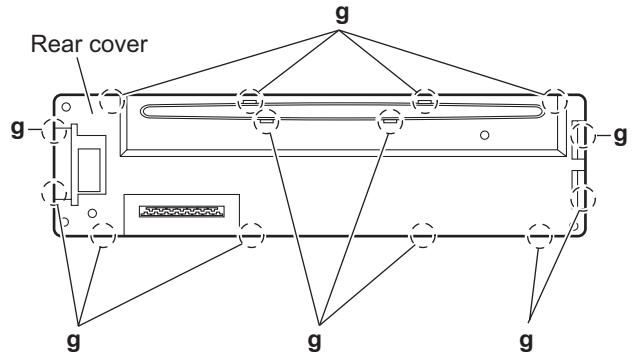

Fig.10
- (2) Release the fourteen joints **g** and remove the rear cover. (See Fig.10)